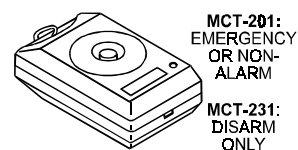

Figure 23. MCT-231 / 201
B. MCT-231 / MCT-201 (Fig. 23): Single-button pendant units. The MCT-231 (CodeSecure) and the MCT-201 (PowerCode) can be enrolled to perform functions as shown. Both units look alike.